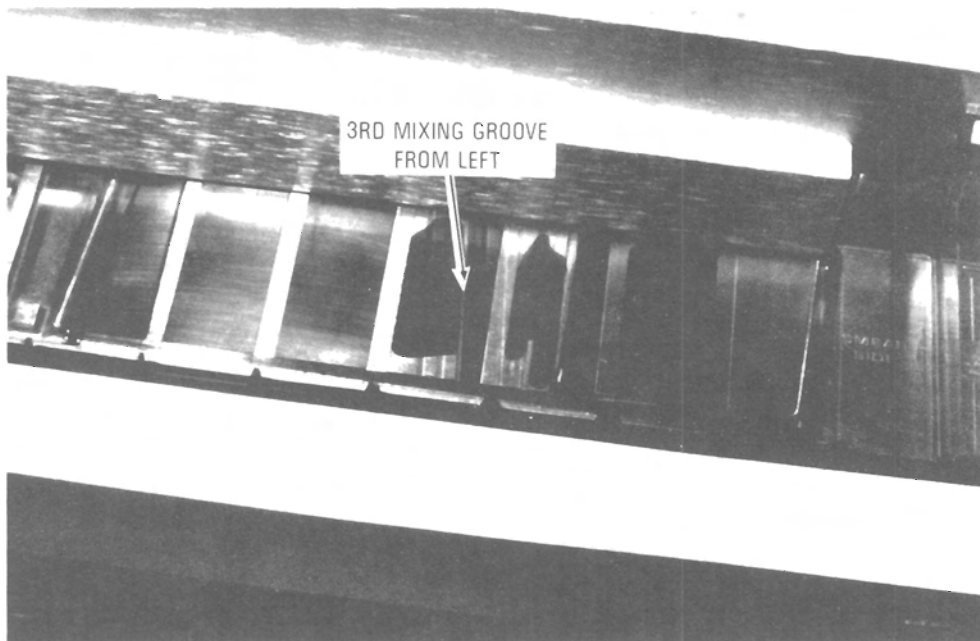

Figure 3-7
- F. Adjust the buffer control knob. When a slide passes the buffer section of the platen, mixing of the stain and buffer occurs because of the series of mixing grooves. This is where the proper stain to buffer ratio is most important. The slides will appear underfilled as they travel over the mixing grooves because some of the solution will "fall" into the grooves. The third mixing groove from the left is deeper than the others, and should appear almost dry, in comparison to the other grooves, as a slide passes this position. As a matter of reference, this third mixing groove from left should never appear more than one-quarter full at any time, and should also appear dry between slides (Figure 3-7). Flooding of this groove may indicate an excessive volume of stain or buffer.